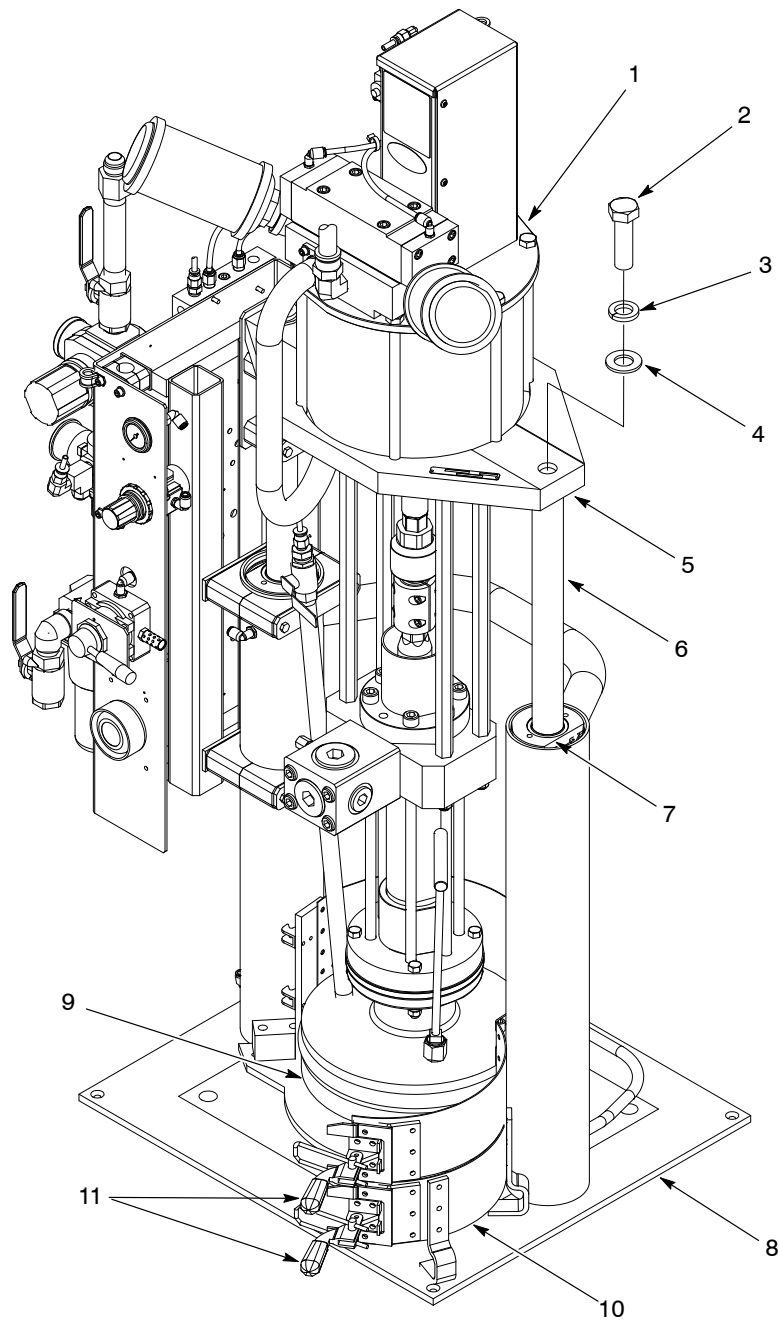

Figure 4 Removing the Pump Assembly
1. Optional Pail Hold Down: Unlock the latches (11) and open the clamshell (10).
2. See Figure 4. Lower the follower plate (9) to the base of the pail frame (8).
4. Remove any device or bracket that is installed to the cylinder shafts (6) or cylinder heads (7).
1. See Figure 4. Install the pump assembly (1) onto the small frame (8).
2. Apply Loctite 242 to the threads of the screws (2). Secure the crossover (5) to the cylinder shafts (6) using the screws, lock washers (3), and flat washers (4). Tighten the screws to 190–195 ft-lb (258–264 N•m).
3. Optional Pail Hold Down: Close the clamshell (10) and lock the latches (11).
4. Install any device or bracket that was removed from the cylinder shafts (6) or cylinder heads (7).